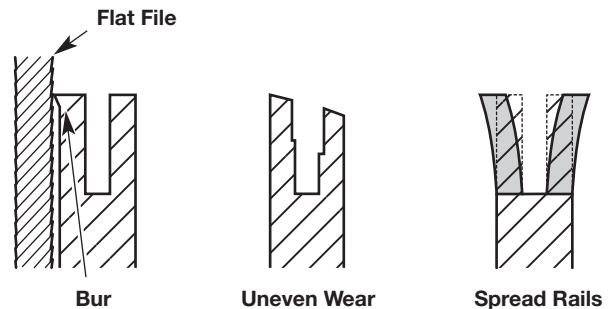

Fig. 25
3. Frequently check the guide bar for damage (Fig. 25). Feathering and burring of the guide bar rails (the ridges on either side of the bar groove) is a normal process of guide bar wear. Such faults should be smoothed with a file as soon as they occur (Fig. 25). A guide bar with the following faults should be replaced:
1. Open the air filter cover by unscrewing the cover screw (Fig. 25).
2. Remove the air filter from the air filter housing (Fig. 25).
6. Reinstall the air filter in the air filter housing (Fig. 25).